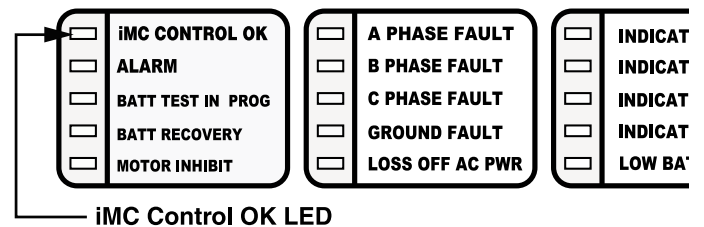

Figure 30. iMC Control OK LED.
4. Verify the iMC Control OK LED is illuminated on the control operator panel (Figure 30). This indicates the presence of ac power.